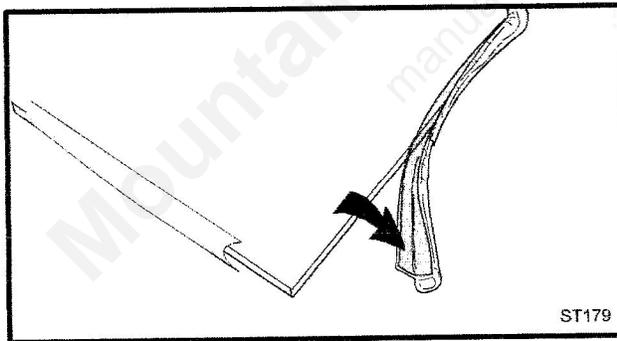

Fig. 71 Wrap the gasket material around the outside edge of the glass.
3. Starting on a long edge, remove about 6" of the protective paper strip and apply the flat adhesive face of the gasket around the outside-facing edge of the panel. Continue around the panel, applying a bout 6" at a time and being careful to not stretch the material. Do not overlap the gasket ends. (Fig. 71)